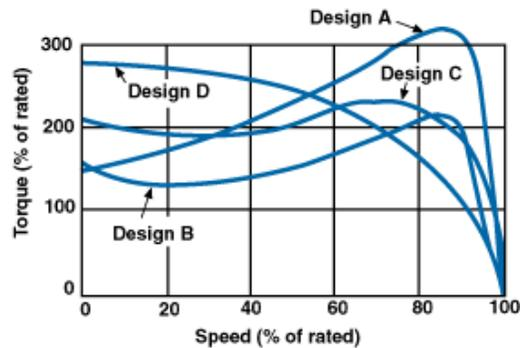

Figure 1. Design A,B,C,D - For AC Motors
1. **Determine the Motor Base Speed.** The motor base speed is determined by selecting a motor and gear reducer ratio that delivers the desired speed at the drive shaft of the screw feeder. Motors with 1800 rpm base speeds are most common in the U.S. 1200 and 3600 rpm motors are also available. Most commercially available industrial motors used in screw feeder applications are NEMA Design B motors. Depending on the horsepower and base speed, a NEMA design B motor can generate up to 275% of the nameplate rated torque at start up when started at full voltage across the line. Please refer to Figure 1 below. The same motor started on a VFD will deliver torque at either the current overload of the VFD or the breakdown torque of the motor, whichever is lower.